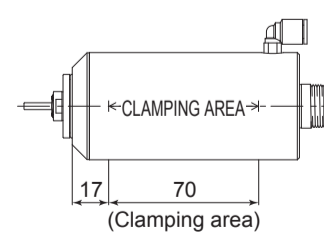

Fig. 7
- ① When mounting a Spindle, refer to the Clamping Area etched on the Spindle (Fig. 7).